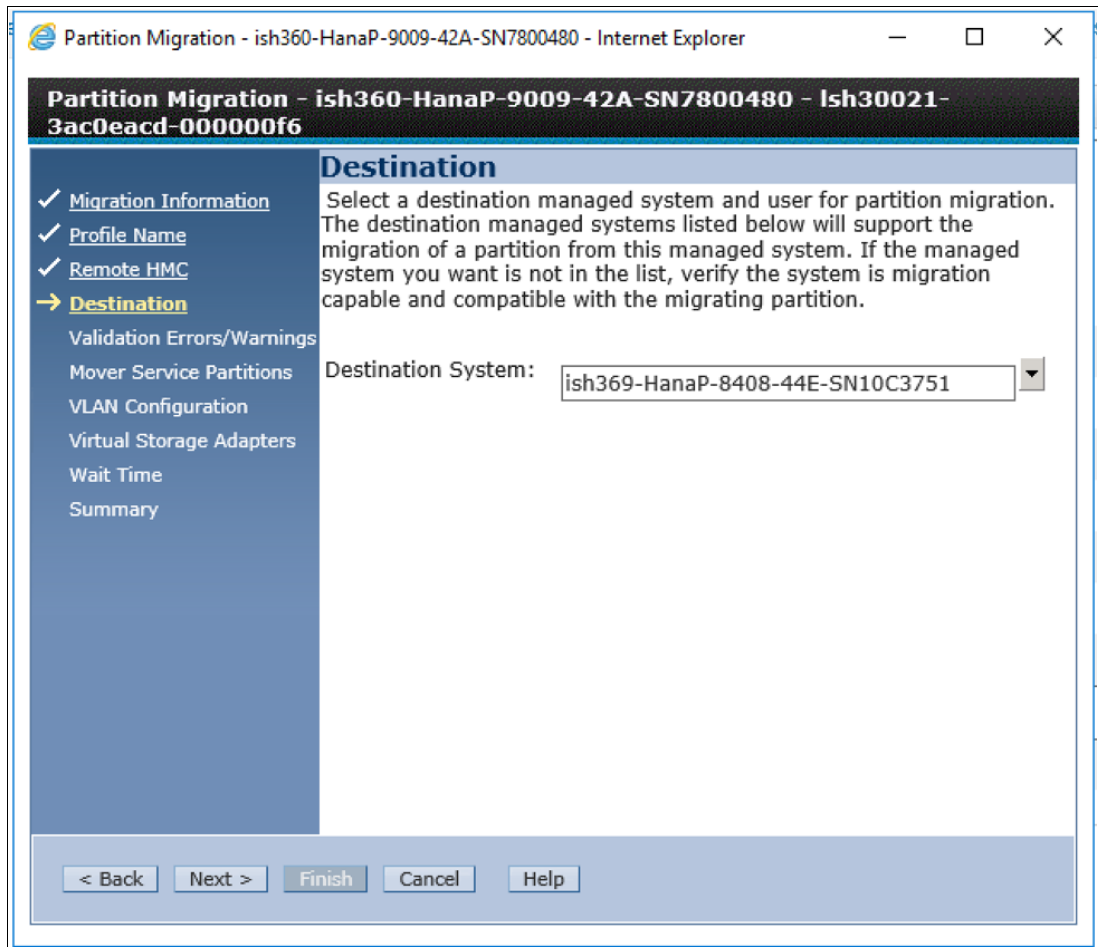

Figure 3-17 Partition Migration: Destination selection
3. Select the destination system in the Destination step, as shown in Figure 3-17. It can be selected from a drop-down list, which is supplied by the destination HMC.